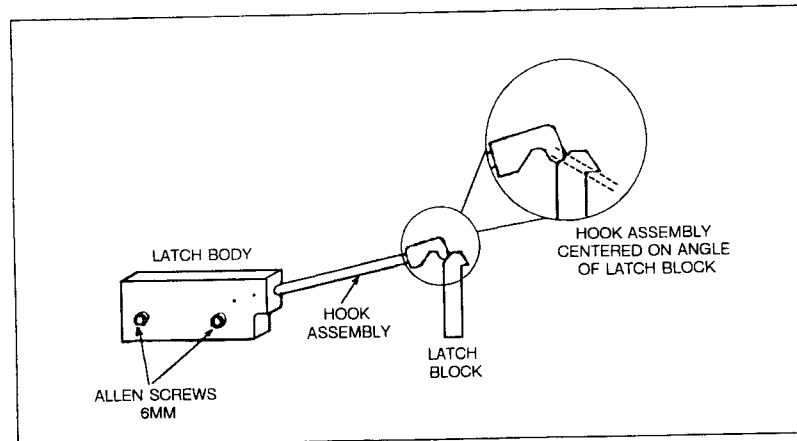

Figure 5-16. Final Adjustment
- b. Loosen the two 6mm allen screws in the latch body. Raise the swing gate until the latch hook contacts the latch block, approximately centered on the angle of the block, as shown in figure 5-16. Hold the swing gate in this position until you securely tighten the 6mm allen screws on the latch body.